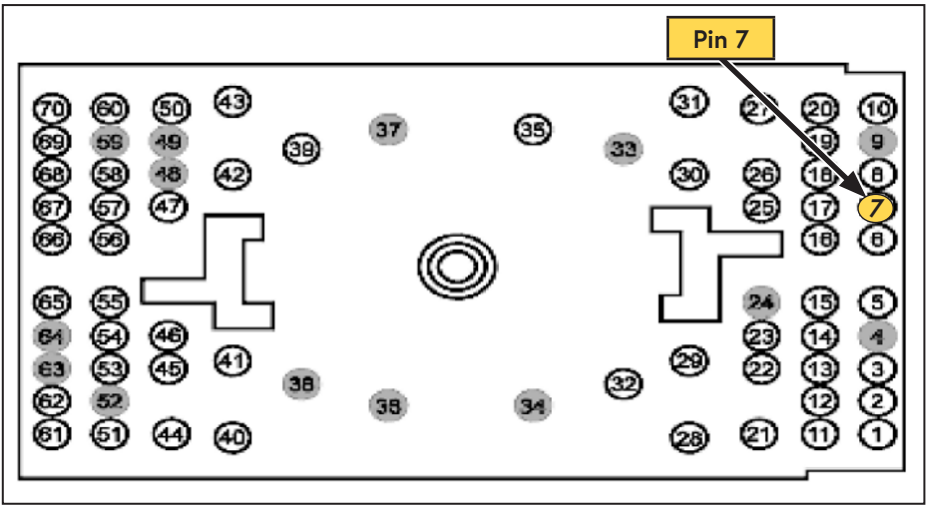
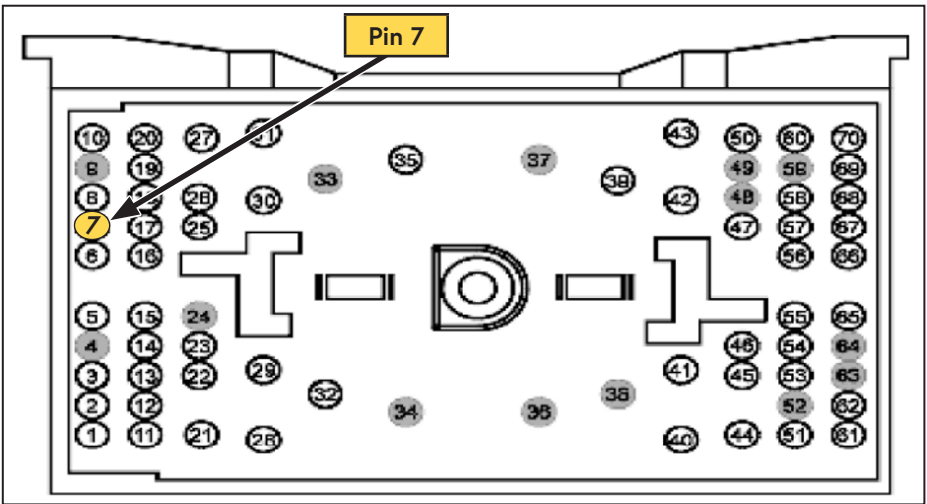

Figure 77 — Male Harness C210
Figure 78 — Female Harness C210
- Locate pin 7 of the C210 connector; it will be populated by a grey wire with a brown stripe (Figure 77, Figure 78)